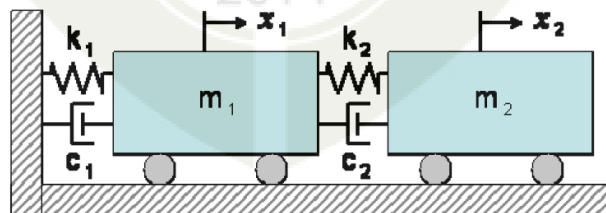

Fig. 2
- 17 Obtain the equation of motion for a two degree of freedom system shown in Fig. 2 (14)